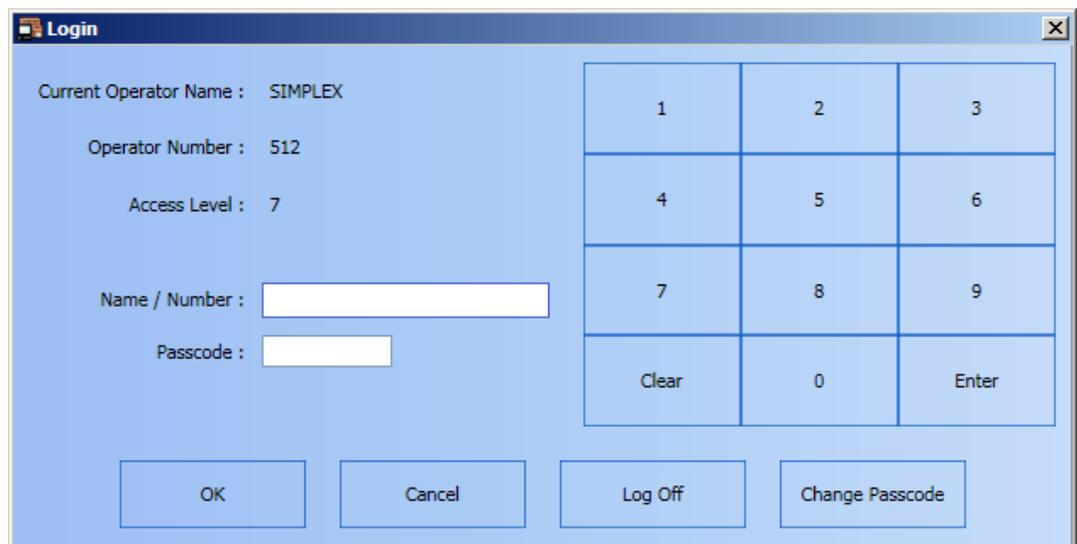

Figure 7-3 Login Dialog Box
1. Click on **Login** in the **Utilities** menu. The **Login** dialog box appears, as shown in Figure 7-3.